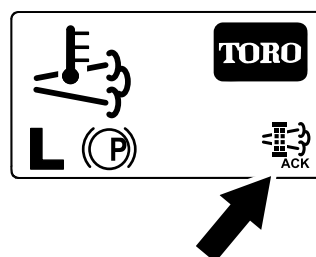

Figure 56
- The InfoCenter displays the home screen and the regeneration acknowledge icon (Figure 56) appears in the lower right corner of the screen as the regeneration processes.